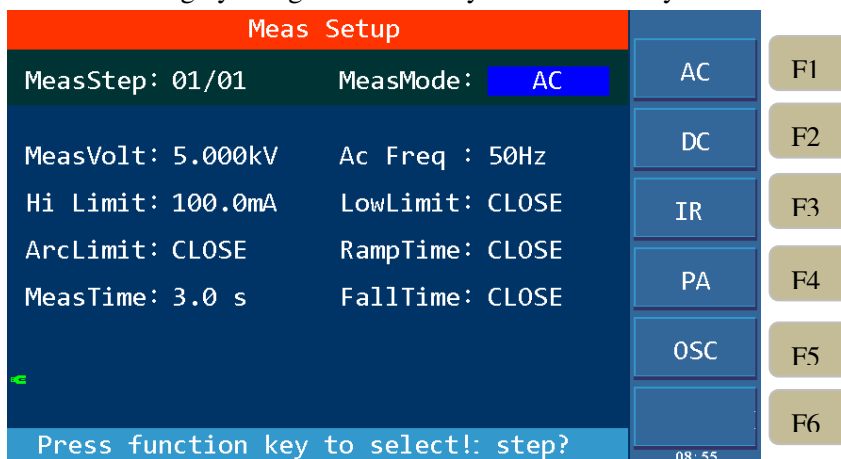

Figure 4-11 Meas Setup
1. Press **[[SETUP]]** to enter the measurement setup interface shown in Figure 4-11.